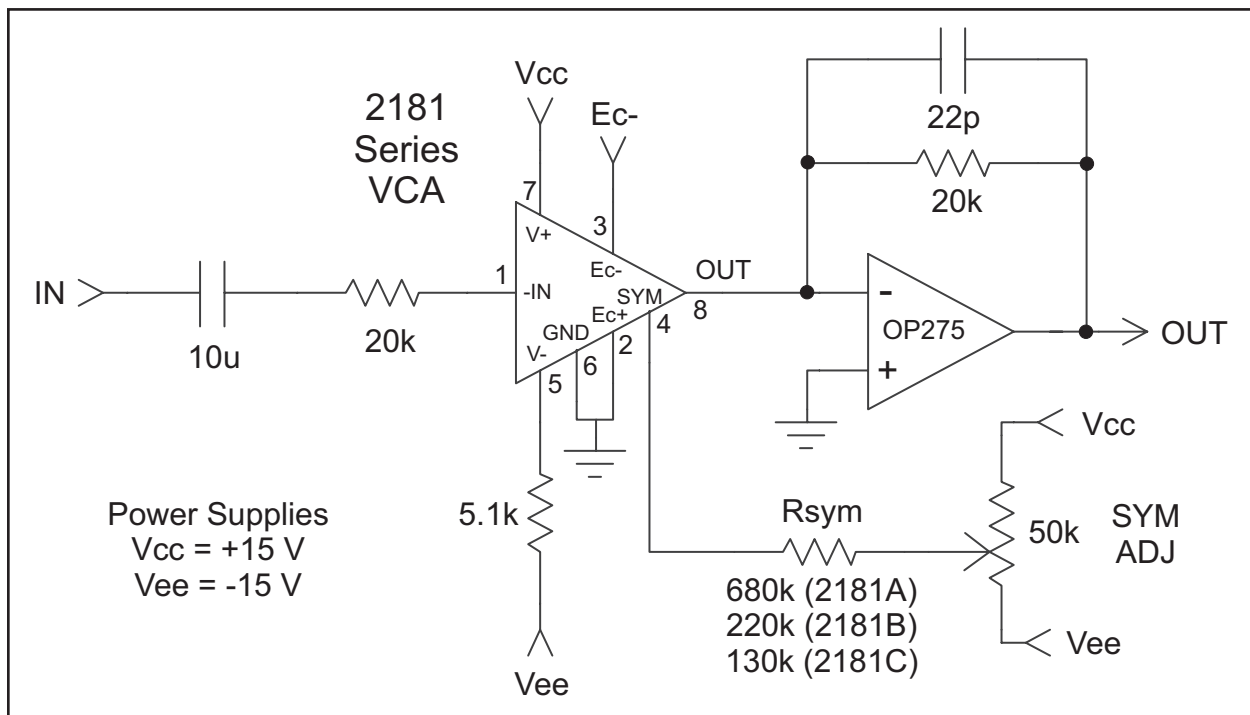
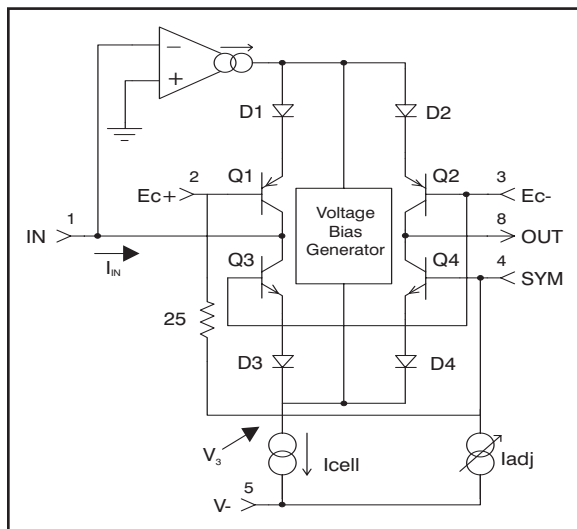
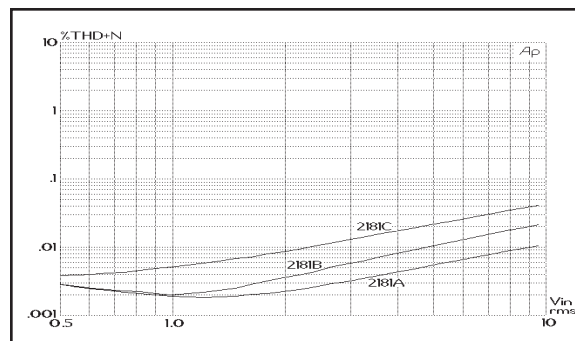

Figure 2. Typical Application Circuit
Figure 5. Simplified Internal Circuit Diagram
Figure 10. 1 kHz THD+Noise Vs. Input Level, 0 dB Gain
2. Unless otherwise noted,  $T_A = 25^\circ\text{C}$ ,  $V_C = +15\text{V}$ ,  $V_{EE} = -15\text{V}$ . Test circuit is as shown in Figure 2. SYM ADJ is adjusted for minimum THD at 1 V, 1 kHz,  $E_{C-} = -E_{C+} = 0\text{V}$
Figure 5 presents a considerably simplified internal circuit diagram of the IC. The ac input signal current flows in pin1, the input pin. An internal operational transconductance amplifier (OTA) works to maintain pin 1 at a virtual ground potential by driving the emitters of Q1 and (through the Voltage Bias Generator) Q3. Q3/D3 and Q1/D1 act to log the input current, producing a voltage, V3, which represents the bipolar logarithm of the input current. (The voltage at the junction of D1 and D2 is the same as V3, but shifted by four forward  $V_{be}$  drops.)
The 2181 current consumption is determined by the resistor between pin 5 (V-) and the negative supply voltage ( $V_{EE}$ ). Typically, with 15V supplies, the resistor is 5.1 k $\Omega$ , which provides approximately 2.4 mA. This current is split into two paths: 570  $\mu$ A is used for biasing the IC, and the remainder becomes Icell as shown in Figure 5. Icell is further split in two parts: about 20  $\mu$ A biases the core transistors (Q1 through Q4), the rest is available for input and output signal current.
The 2181-Series VCAs are intended to be adjusted for minimum distortion by applying a small variable offset voltage to pin 4, the SYM pin. Note that there is a 25  $\Omega$  resistor internal to the 2181 between pin 4 and pin 2. As shown in Figure 2, Page 3, the usual method of applying this offset is to use the internal 25  $\Omega$  resistor along with a
The 2181-Series VCA design, fabrication and testing ensure extremely good audio performance when used as recommended. The 2181 maintains low distortion over a wide range of gain, cut and signal levels. Figures 10 through 12 show typical distortion performance for rep-
The Input pin (pin 1) is a virtual ground with negative feedback provided internally (see Figure 5, Page 4). The input resistor (shown as 20 k $\Omega$  in Figure 2, Page 3) should be scaled to convert the available ac input voltage to a current within the linear range of the device. Generally, peak input currents should be kept under 1 mA for best distortion performance.
Refer to Figures 10 through 12 to see how distortion varies with signal level for the three parts in the 2181 Series for 0 dB, +15 dB and -15 dB gain. The circuit of Figure 2, Page 3 was used to generate these curves.
A designer may trade off noise for distortion by decreasing the 20 k $\Omega$  current-to-voltage converting resistors used at the input and output in Figure 2, Page 3. For every dB these resistor values are de-
The Output pin (pin 8) is intended to be connected to a virtual ground node, so that current flowing in it may be converted to a voltage (see Figures 2 & 15). Choose the external opamp for good audio performance. The feedback resistor should be chosen based on the desired current-to-voltage conversion constant. Since the input resistor determines the voltage-to-current conversion at the input, the familiar ratio of  $R_f/R_i$  for an inverting opamp will determine the overall voltage gain when the 2181 is set for 0 dB current gain. Since the VCA performs best at settings near unity gain, use the input and feedback resistors to provide design-center gain or loss, if necessary.
The SYM pin (pin 4) is actually a sort of additional positive-sense control port. It is provided to allow  $V_{be}$  mismatches in the core transistors to be adjusted after packaging and installation in the circuit board. It should only be used for this purpose. Connect pin 4 only to a high-impedance source as shown in Figures 2 and 15.